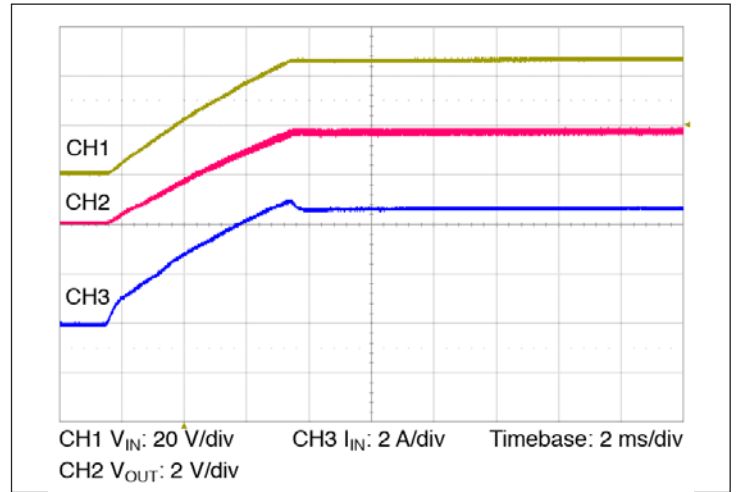

Figure 10 – Start up from application of  $V_{IN}$ ; VC pre-applied  $C_{OUT} = 9100 \mu F$
- Normal operation (VC applied prior to VIN): In this case the controller is active prior to ramping the input. When the input voltage is applied, the VTM output voltage will track the input (See Figure 10). The inrush current is determined by the input voltage rate of rise and output capacitance. If the VC voltage is removed prior to the input reaching 26 V, the VTM may shut down.